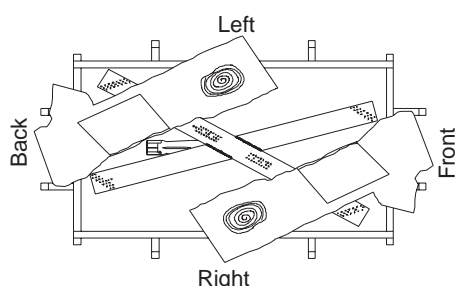

**Figure 41 - Removing Glass Door**
3. To open the glass door, open the pairs of latches located on the top and bottom of the firebox (see Figure 41). *Note:* Use caution when opening these latches.